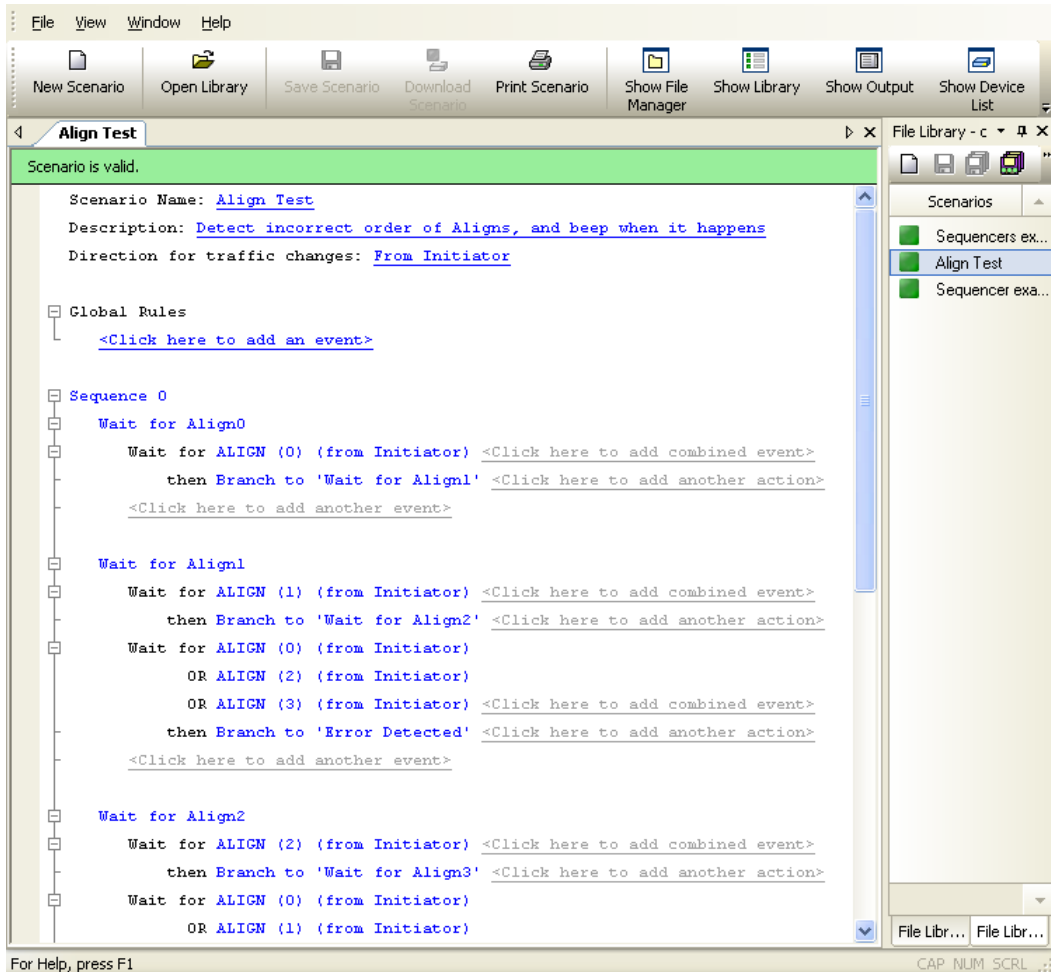
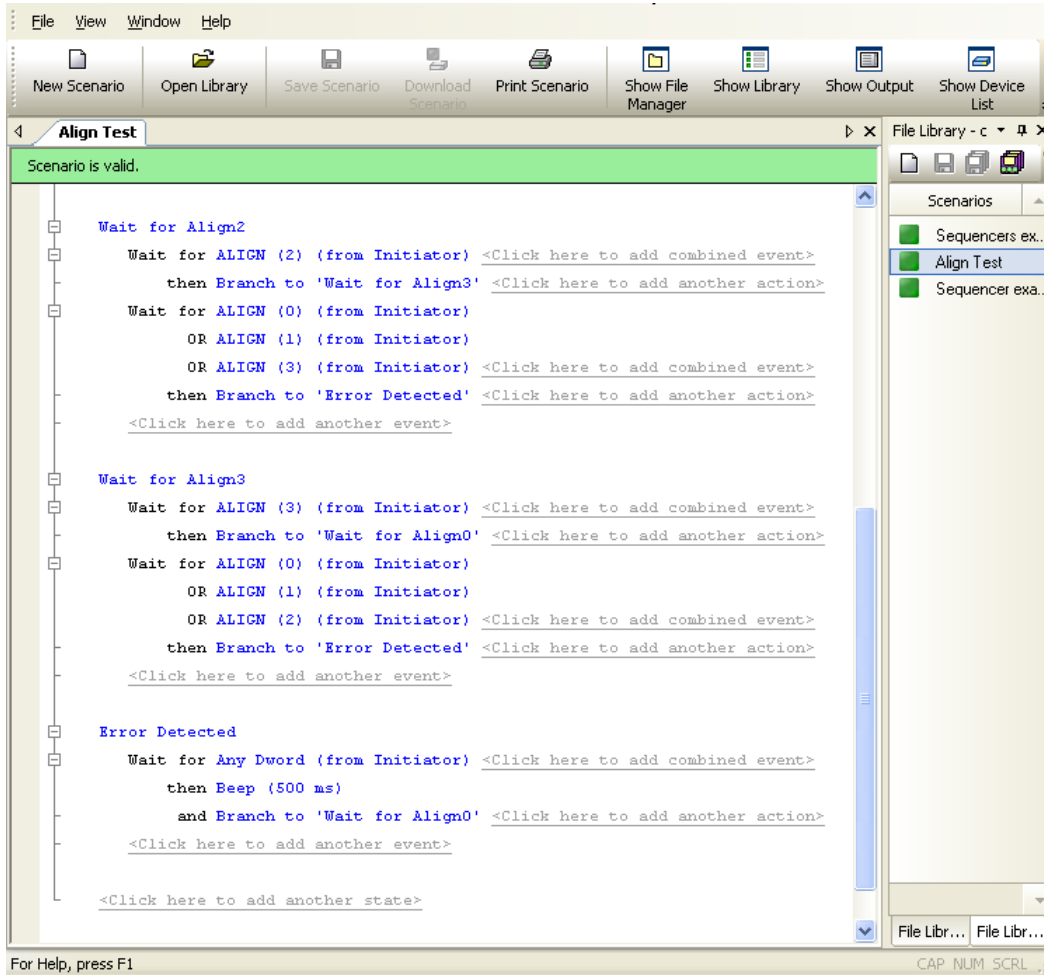

Figure 5.45 Example 8: Top Half of Scenario
Figure 5.46 Example 8: Bottom Half of Scenario
Step 3 In the File menu, select **Save Scenario** to save the scenario (Figure 5.45 and Figure 5.46).